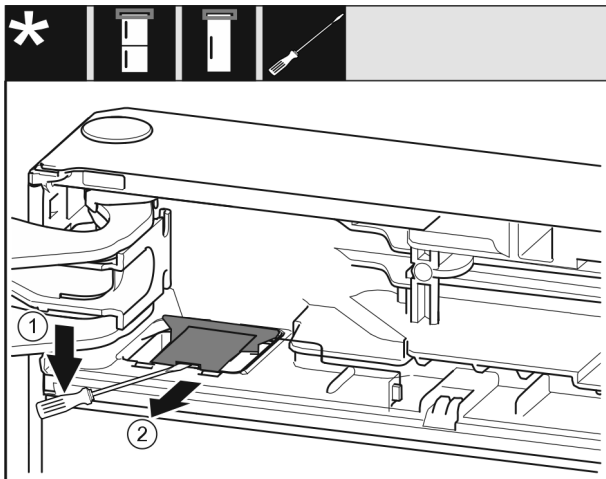

Fig. 12
- Unlatch the cover with a slotted screwdriver and lift it up. *Fig. 12 (1)*
- Take out the cover. *Fig. 12 (2)*